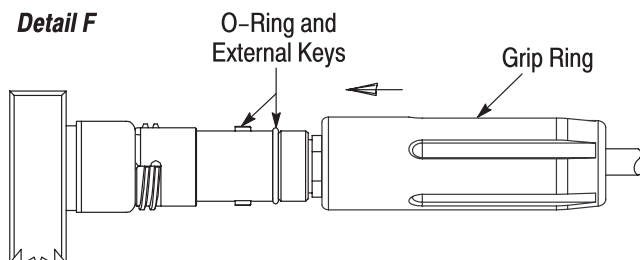

Figure 14
12. Apply 2 to 3 drops of the threadlocker to the threads at the front of the collet sleeve. See Figure 14, Detail A.
13. Slide the collet sleeve over the crimp sleeve and into the housing. Thread the collet sleeve onto the housing, BEING VERY CAREFUL NOT to pinch the back end of the collet sleeve which would cause the cable to twist. See Figure 14, Detail B.
14. Secure the bench-mount assembly fixture to a stable work surface. Fit the end of the housing onto the captive housing of the bench-mount assembly fixture. See Figure 14, Detail C.
16. Using an applicator swab, apply a *thin film* of the grease to the housing O-ring, threads of the collet sleeve, and the ramp of the collet sleeve. Refer to Figure 14, Detail D.
17. Slide the collet nut onto the collet sleeve. See Figure 14, Detail E. Using the 15-mm U-wrench, tighten the collet nut to a torque between 3.6 and 4 N-m.
18. Apply several drops of the threadlocker to the threads of the housing. See Figure 14, Detail E.
19. Slide the grip ring over the housing, twisting the grip ring $\pm 90^\circ$ so that it slides over the O-ring and the external keys of the housing. See Figure 14, Detail F. Thread, then hand-tighten the grip ring onto the bench-mount assembly fixture.